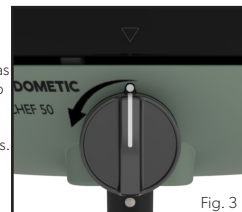

Fig. 3
- To light up the appliance using the piezo igniter, push in and turn the control knob (fig.3) in an anticlockwise direction until you hear a click. If the gas does not ignite on the first spark, turn the control knob back to its OFF "•" position. Try again, by pushing and turning the control knob anti-clockwise until you hear a click. If the gas has not ignited in the first two to three seconds you should close the control valve by turning the control knob back to its OFF "•" position.